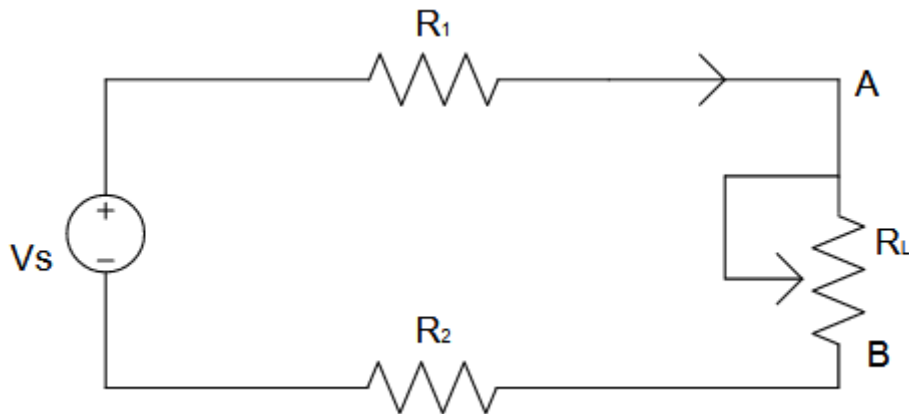

Figure 1. Circuit for Maximum Power Transfer
2. Set up the circuit given in Figure 1 with the values $R_1=R_2=3.3\text{ k}\Omega$, $R_L=100\text{ k}\Omega$, and $V_S=5\text{V}$.